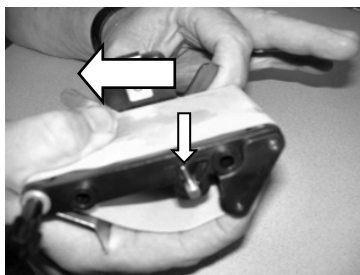

Figure 14c
- **Figure 14c** - Push the Red release handle forward and rotate in the direction of the BIG arrow, when the spindle is in the upright position as shown by the small arrow, pull the red handle back to lock in the 'relaxed' position